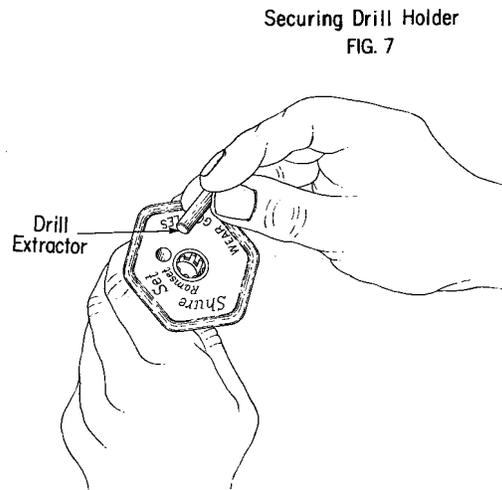

Fig. 8 — Drill Change
(1) Pull out the ram and place the drill extractor into the tool as illustrated in Fig. 8. Replace the ram and tap lightly until drill falls out.